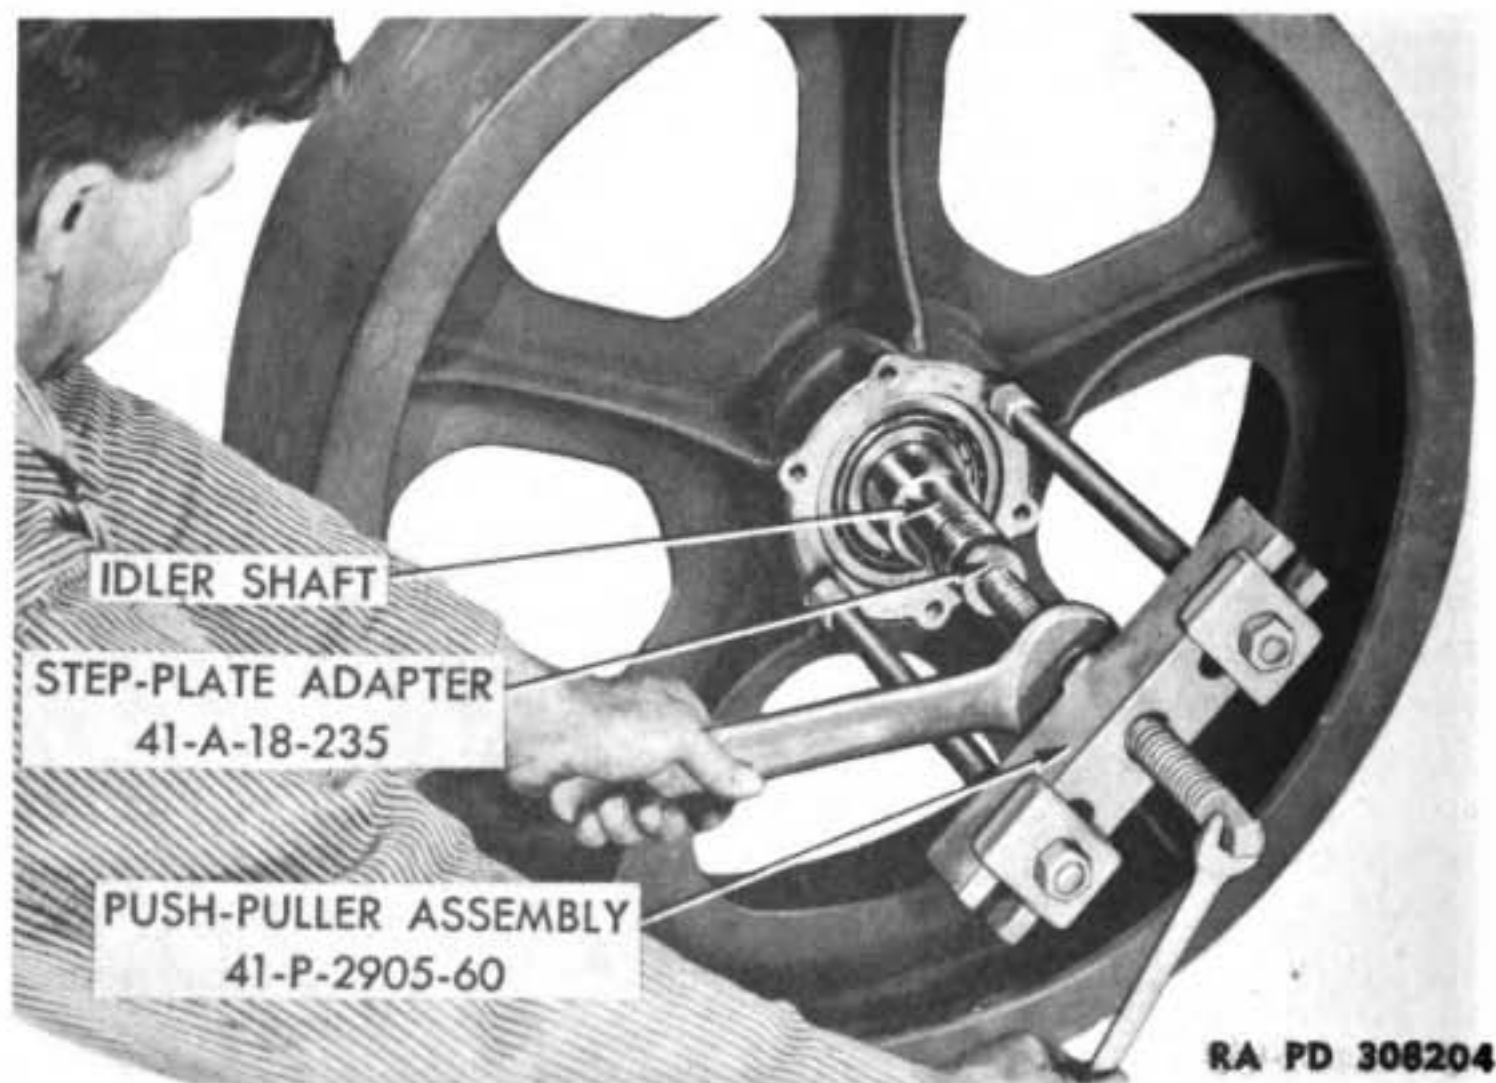

Figure 102 — Pushing Shaft and Bearings From Idler Wheel
b. Remove Idler Shaft and Bearings. Cut and remove lock wires from heads of retainer cap screws and remove the six cap screws from each retainer. Remove the retainers and shims back of retainers (fig. 107). Tap seal plates out of retainers with small punch and hammer. Tie shims to the retainer with which they were removed. Install adapters (41-A-18-235) in two of the tapped holes in hub of wheel, assemble puller in same manner as for removing guide bushings from shaft (fig. 102), and push shaft and bearings out of wheel. One bearing cup will remain in wheel. Use remover (41-R-2374-875) with two handles (41-H-1396-655) and handle (41-H-1396-650) to remove this bearing cup (fig. 103). Press bearing cone and roller assemblies off shaft.